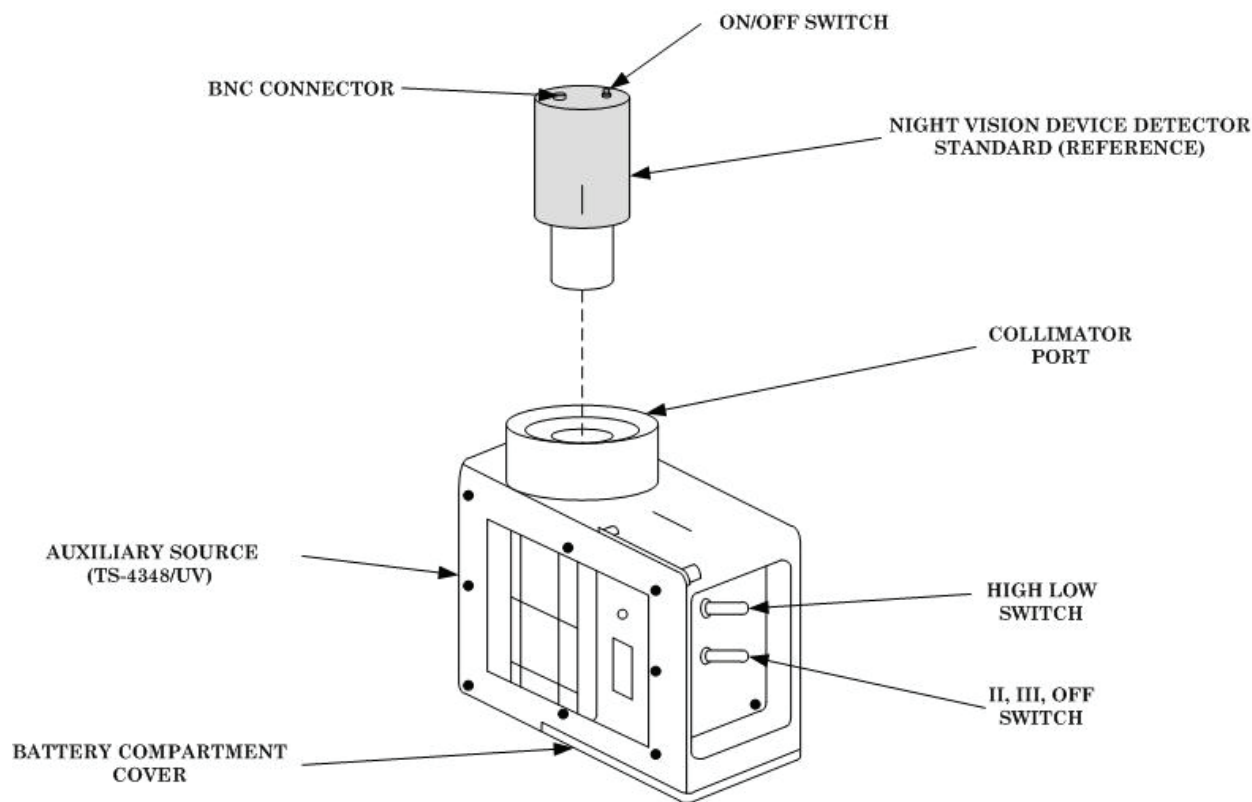

Figure 1. TS-4348/UV controls.
(1) Connect multimeter **INPUT HI** and **LO** to night vision device detector standard BNC CONNECTOR (fig. 1).
- (2) Install night vision device detector standard into TI COLLIMATOR PORT (fig. 1).
- (3) Turn night vision device detector standard power ON/OFF SWITCH (fig. 1) to ON and allow night vision detector standard to warm-up 15 minutes.
- (4) Set TI **II, III, OFF** switch to **II**. Power indicator will illuminate.